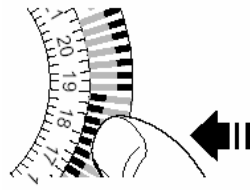
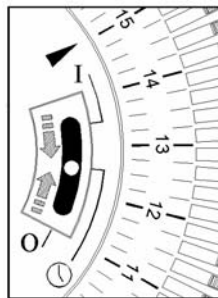
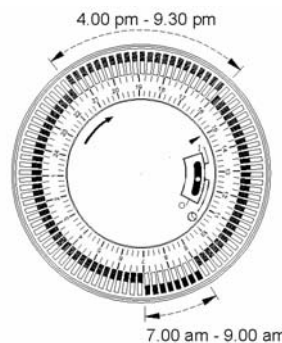

Fig. 7
Fig. 8
Fig. 9
1. Using your finger tip or the tip of a pencil, push in as many segments as necessary around the dial, according to the times you don't require heat – see Fig. 7. Each segment pushed in switches the heater OFF for that part of the hour. All other segments will be ON. For example, Fig. 9 shows the timer set to switch the heater ON between 7 am and 9 am and between 4 pm and 9.30 pm.
Check that the clock shows the correct time of day. Set the I - ⌚ - 0 slide switch to position marked ⌚ (see Fig. 8) - the convector will switch ON and OFF according to the timer settings (see Fig 9).